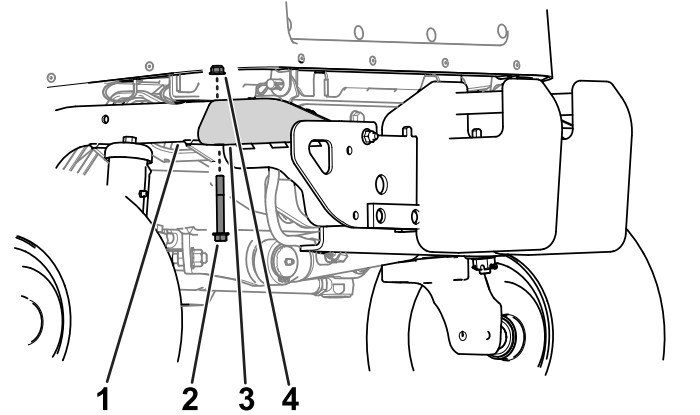

Figure 15
1. Remove the flange-head bolt (3/8 x 3 inches) and flange nut (3/8 inch) securing the bumper to the rear tube frame on each side of the bumper (Figure 15).